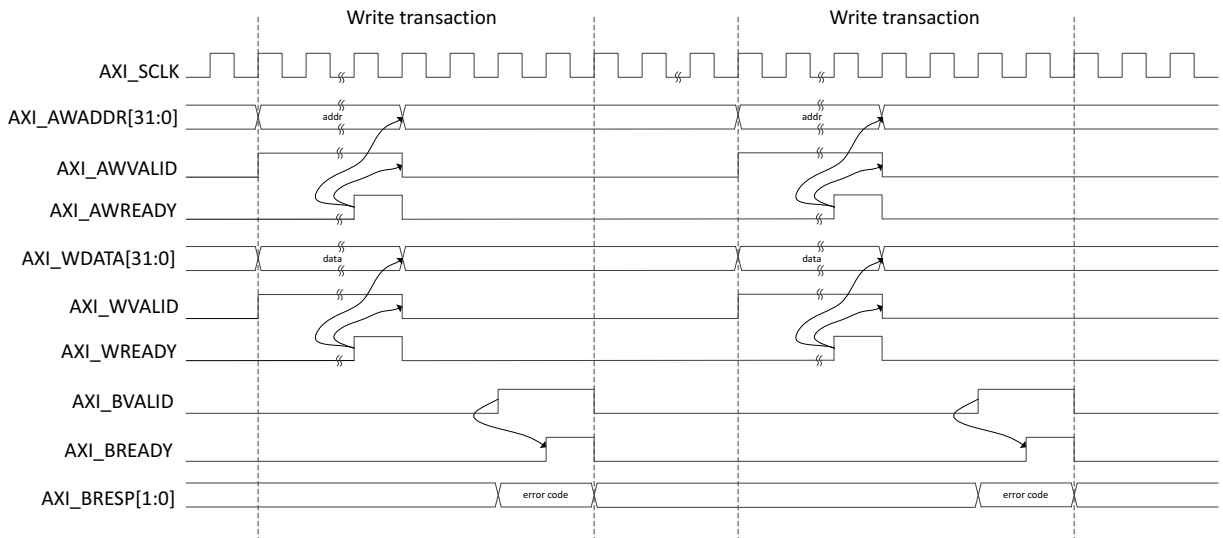

Figure 5-15: AXI4-Lite User Side Write Transaction with Invalid Write Address
- Invalid Write transactions (Figure 5-15)